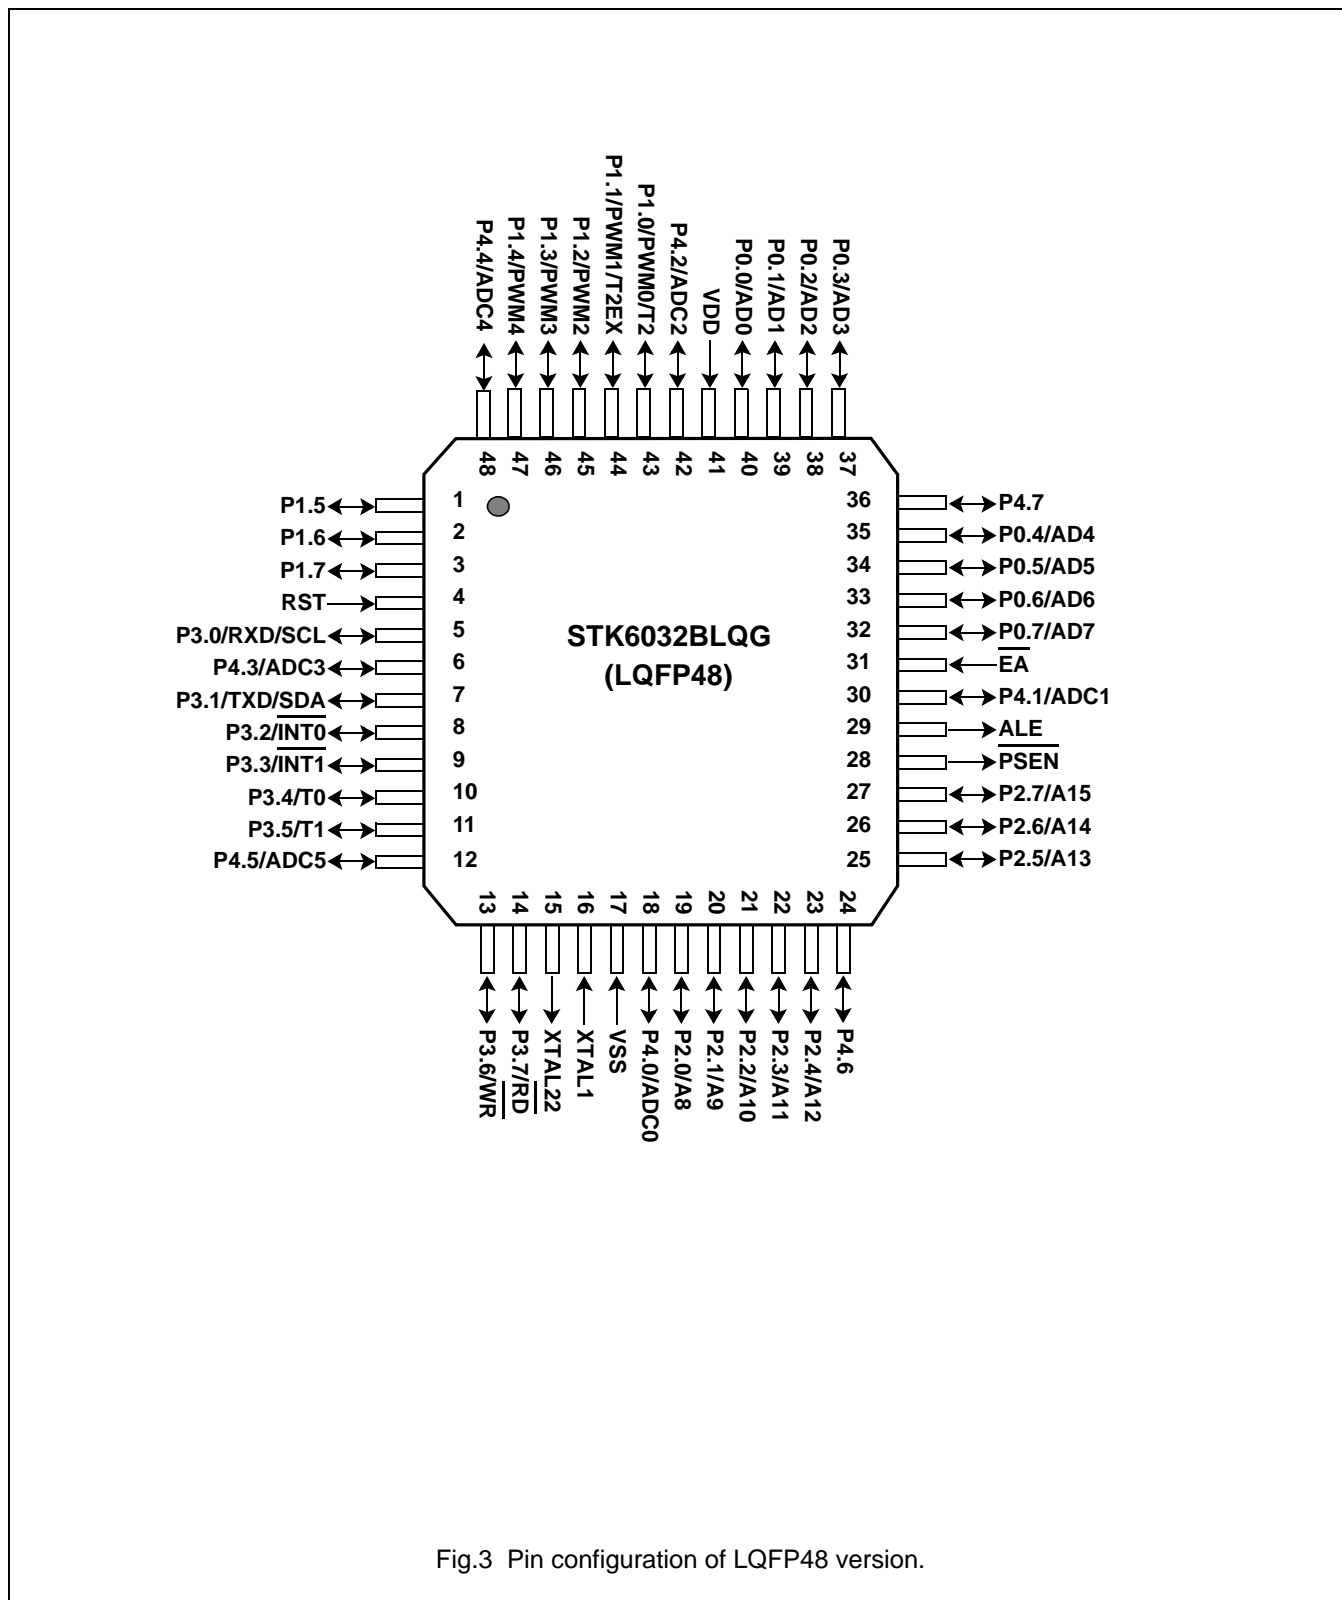

Fig.3 Pin configuration of LQFP48 version.
- Fig. 3** Pin configuration of LQFP48 version....Page 13